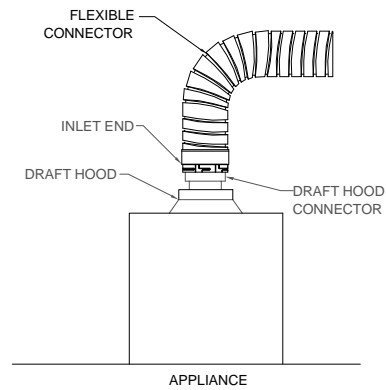

FIG. 6
5. Attach the inlet (bottom of the connector) to the appliance or to a draft hood connector (See FIG. 6).